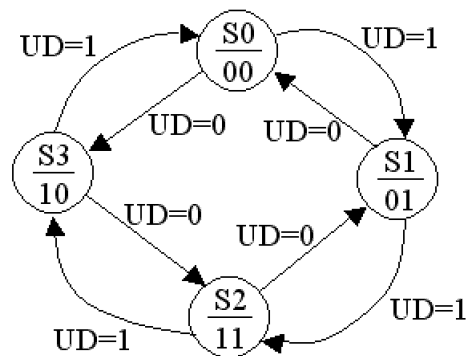

Figure 1. State Diagram for Gray Counter
1. Using the following state assignment, derive the state table from the state diagram in Figure 1.